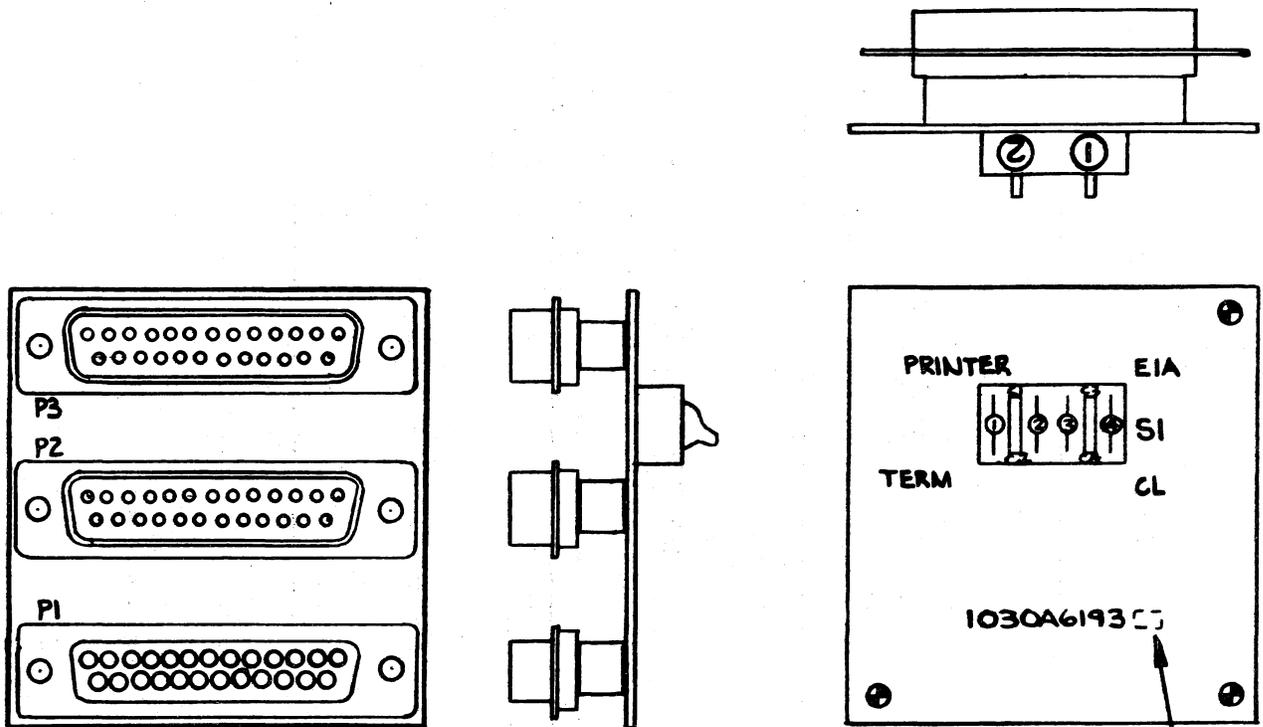

Figure 1 — Diagnostic Test Plug
3.01 The User Diagnostic Kit (SYKES Part No. 1030A5191) consists of a Diagnostic diskette and a 3-port EIA connector plug (Fig. 1). The test procedure is automatically loaded from the diskette into the Comm-Stor II unit's memory when the test is performed. In the first half of the test interval, tests are performed on the unit's memory, diskette drive, and other internal system devices.
- (1) the binary switch is set to EXIT and the modem switch is set to 0,
- (2) the user has inserted the incorrect Diagnostic diskette for the system being tested.
5.03 The diagnostic test plug has two switches, numbered "1" and "2", for simulating peripheral cabling. The plug is placed over *all three* EIA ports. Figure 1 illustrates the test plug.